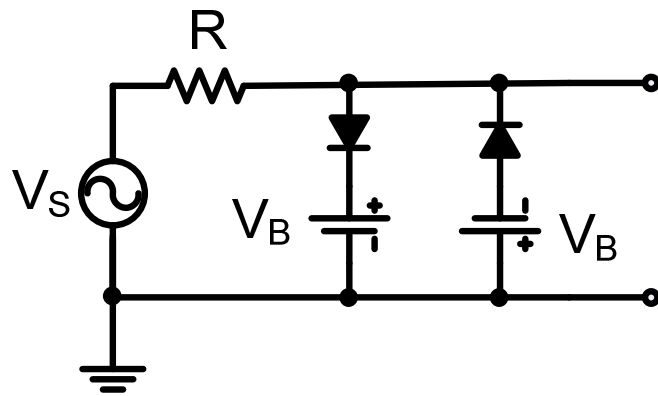

Fig. 3
a) Connect the circuit in Fig. 3. Let the input be a sinusoid of frequency 1 kHz. Display the input and output waveforms on the oscilloscope. Vary the amplitude of the input and observe the result. Display the V_{out} vs. V_{in} transfer characteristics of the circuit on the oscilloscope. Change the input waveform to a triangular or square waveform and see what happens.